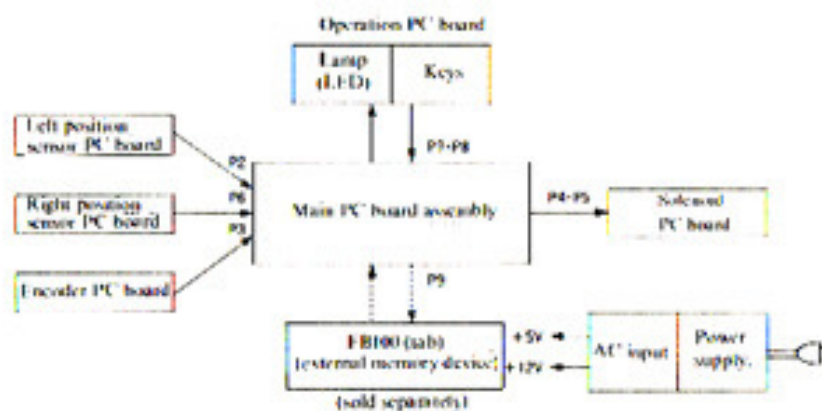

Figure 5-1
2) Fig. 5-1 shows the circuitry configuration of the KH-930.